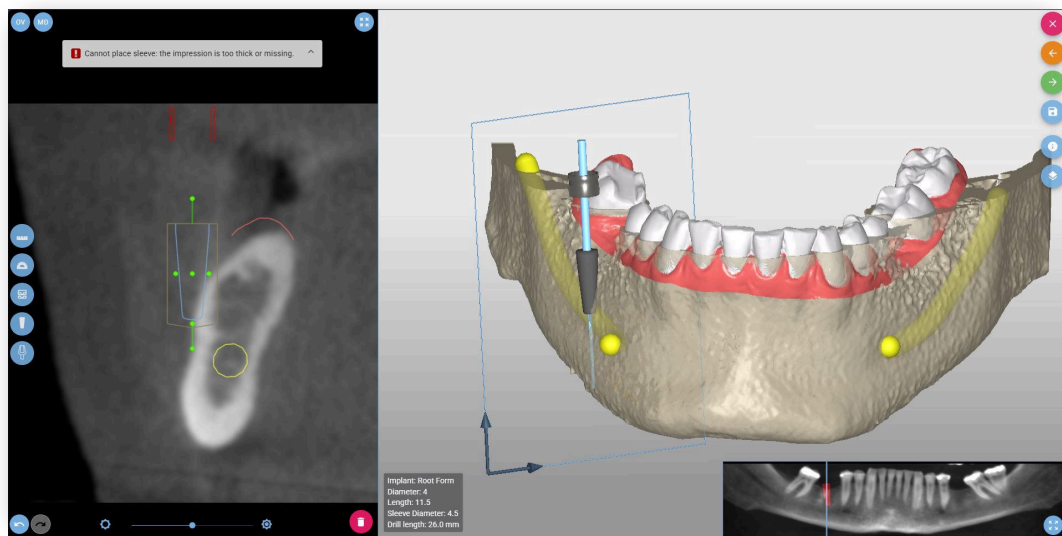

Figure 51: The guiding sleeve is not within the physical boundaries of the impression.
- The guiding sleeve is outside the boundaries of the impression. Such cases are physically impossible to manufacture (Figure 51).